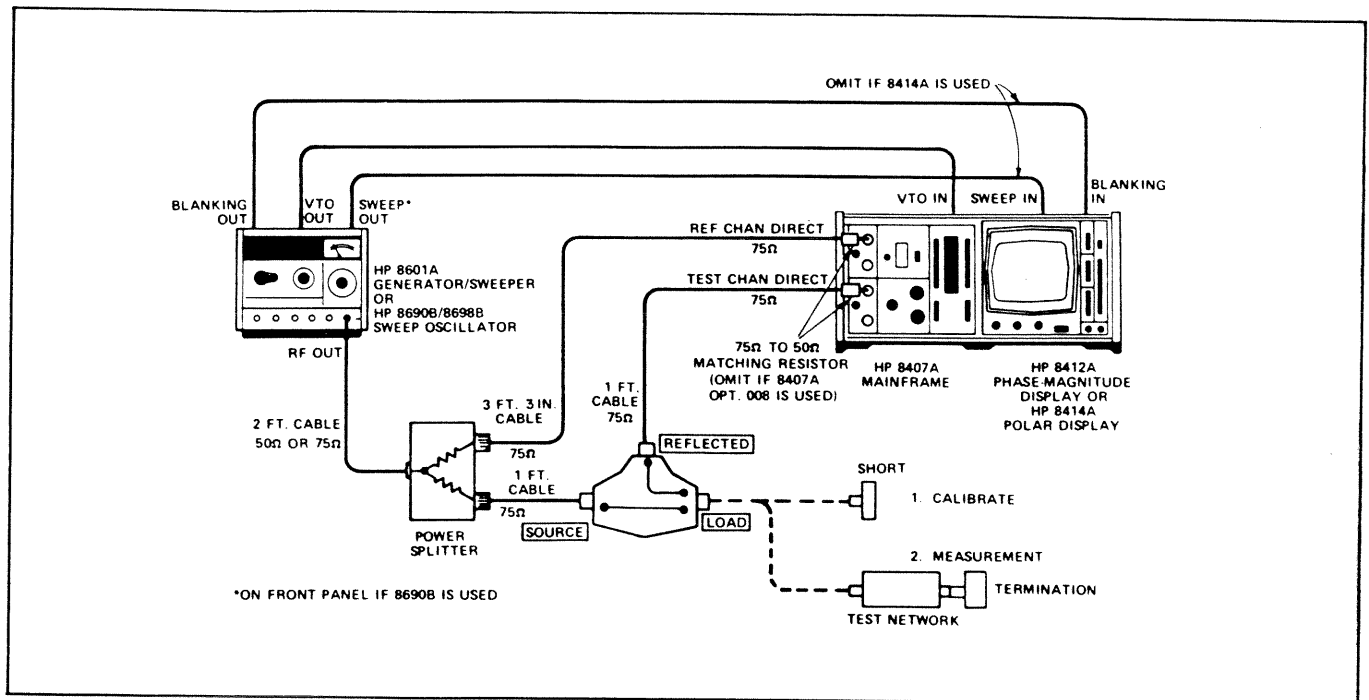

Figure 5. Basic Setup for Reflection Measurements
a. The HP 11652A Option 008 is used as shown in Figure 5 when measuring complex impedance, reflection coefficient or return loss (VSWR).
1. Setup the equipment as shown in Figure 5.
Be sure the HP 8721A Option 008 Directional Bridge is being used as a reverse coupler, not as a forward coupler during a reflection measurement (see Figure 5). This ensures that only the reflected signal will enter the test channel (EREFLECTED).